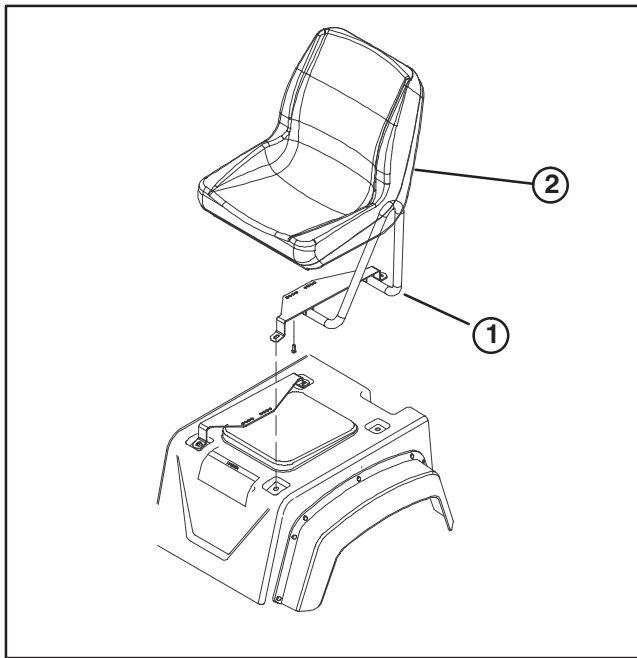

Figure 9
- 3. R-clamp (2)
18. Remove capscrews (4 for each seat) securing seat brackets to vehicle body (Fig. 9). Remove both seats.
19. Remove (2) capscrews securing outside seat bracket w/hip restraint to seat (Fig. 9).